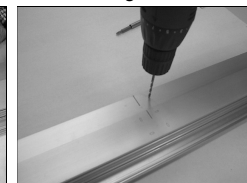

Fig. 5
Fig. 5 bis
- Drill the holes and screw in the front bracket, making sure that all screws are fitted tightly (Fig. 5 and 5bis).